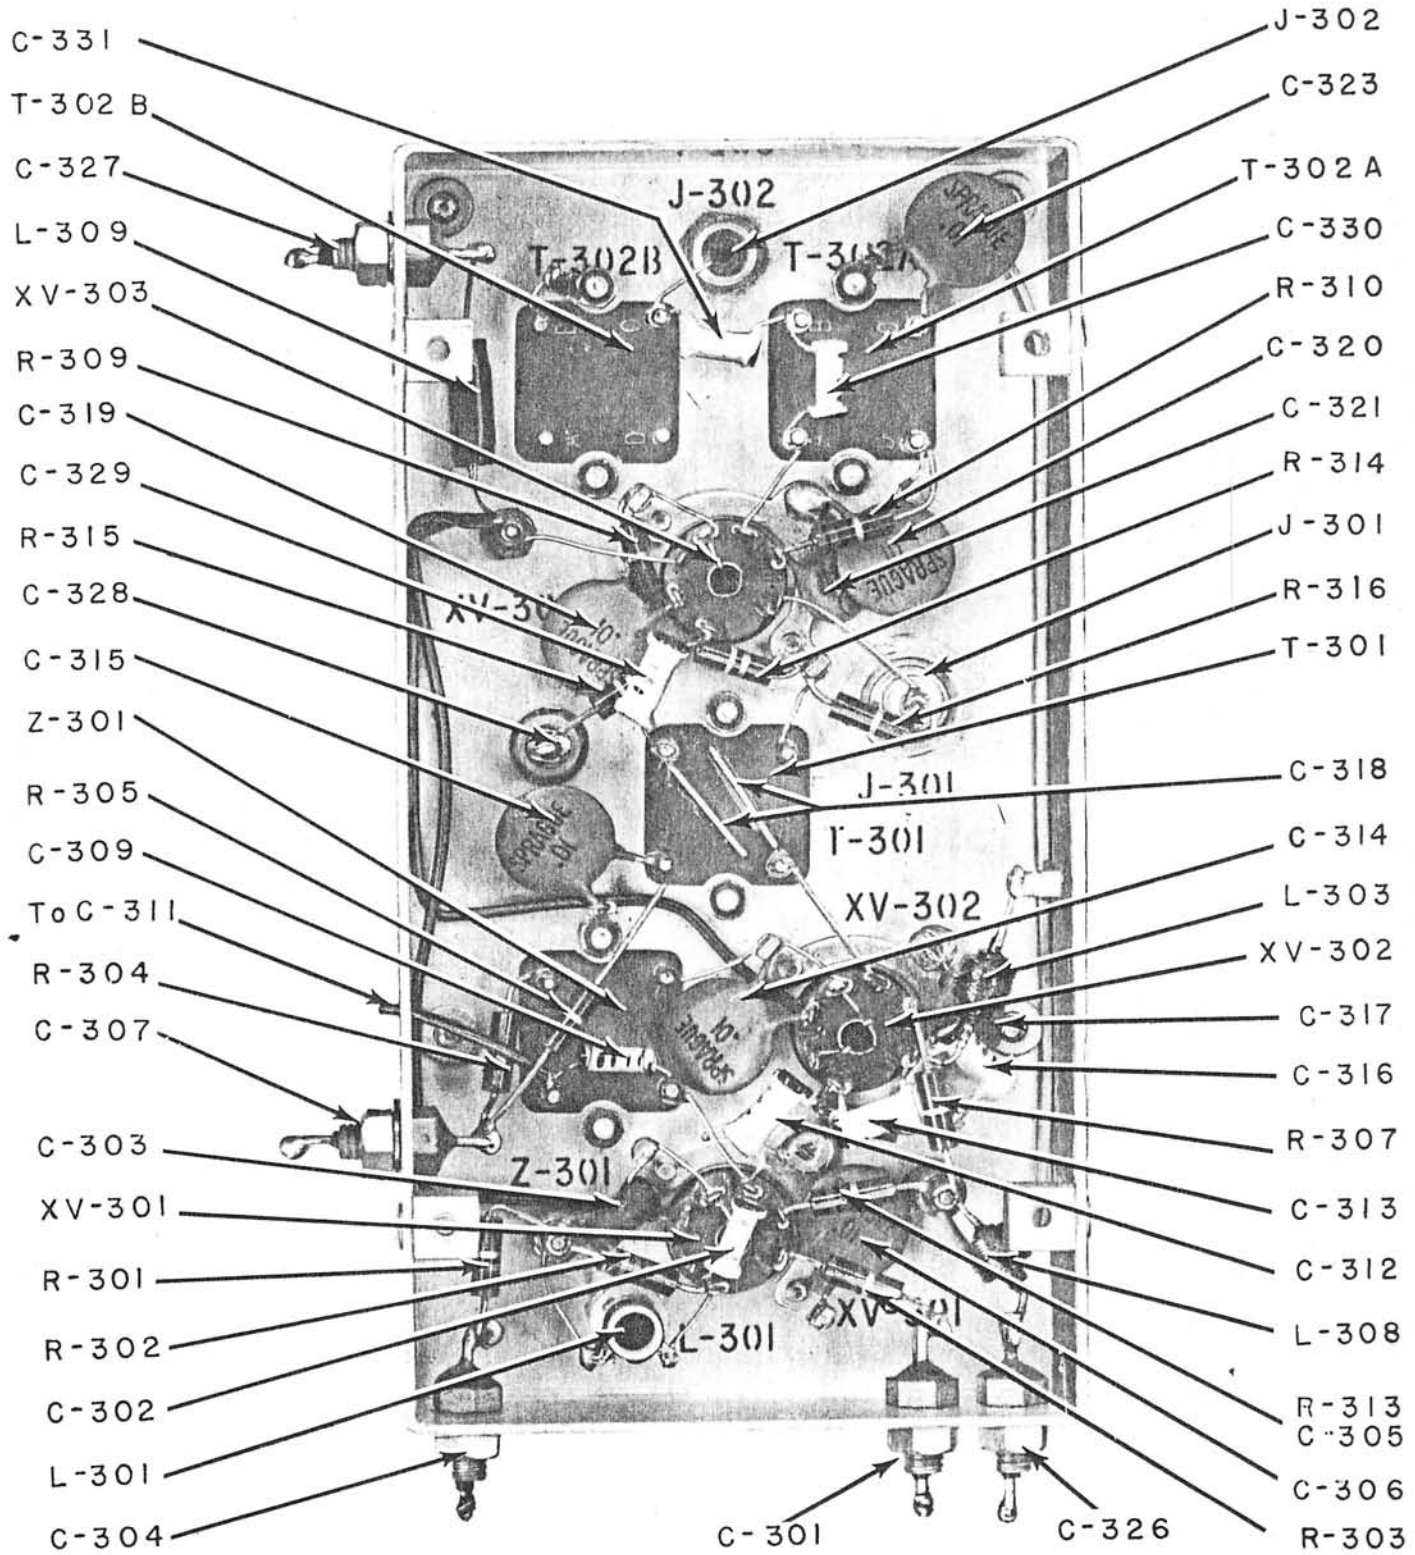

Figure 8. Local Oscillator Chassis, Spectrum Display Unit
(9). Remove the cover from the oscillator unit, Figure 8. Connect the VTVM to tiepoint junction of capacitor C-303 and resistor R-301. Connect vertical amplifier of the scope to capacitor C-328.
(11). Repeat steps (8) and (10).